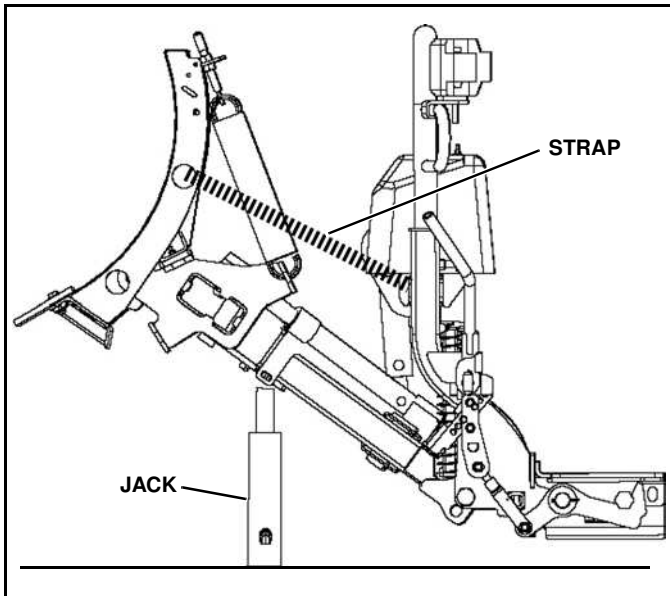

Figure 1-44
1. Set jack under plow. (See Figure 1-44).
2. Release strap and lower jack. (See Figure 1-44).